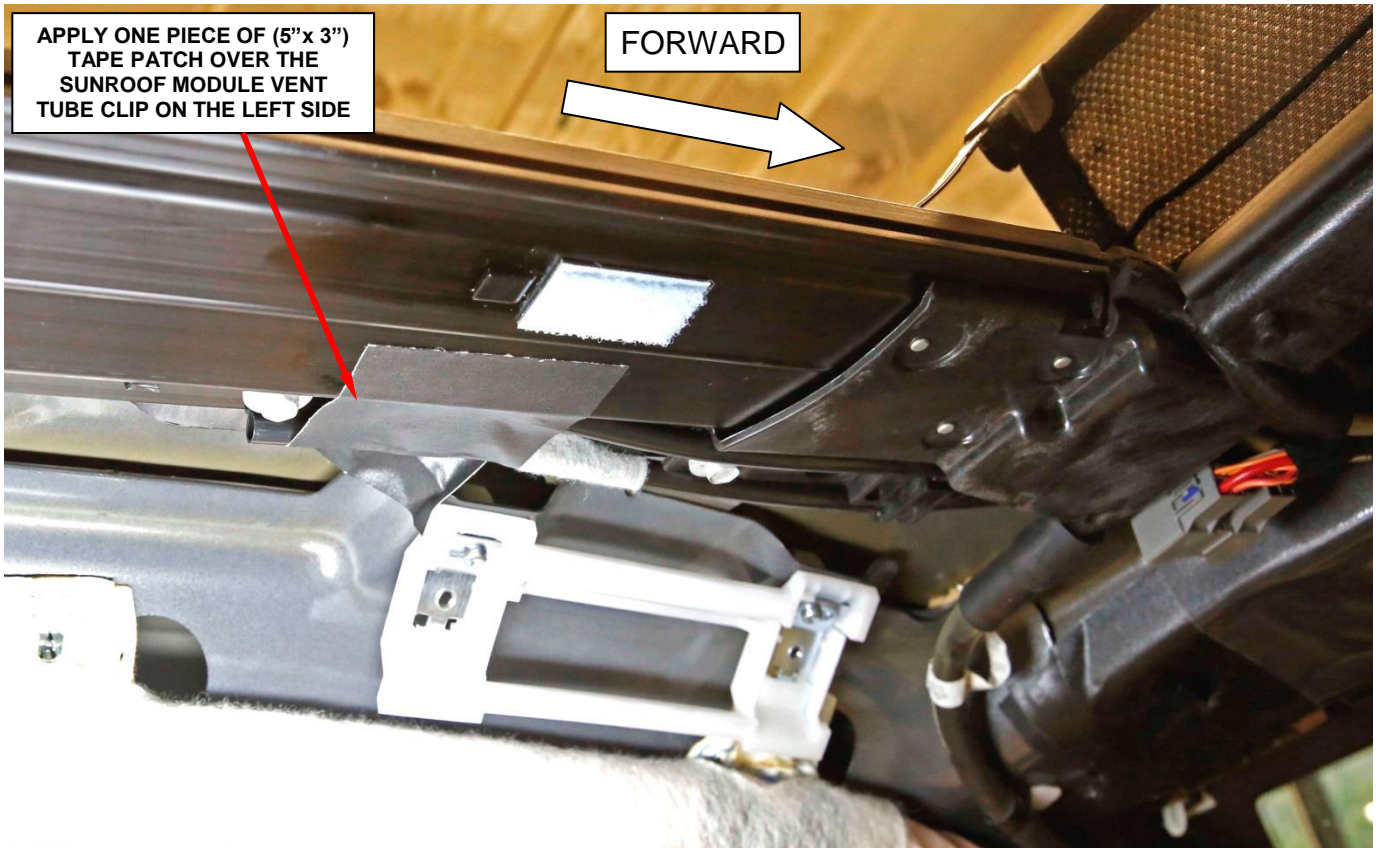

Figure 24 – Apply Tape Patch Over Sunroof Module Vent Tube Clip (Dual Pane Sunroof Left Side Only)
- 51. **For vehicles equipped with a Dual Pane Sunroof**, apply one piece of (5" x 3") tape patch over the sunroof module vent tube clip on the left side of the vehicle (Figure 24 and 25).